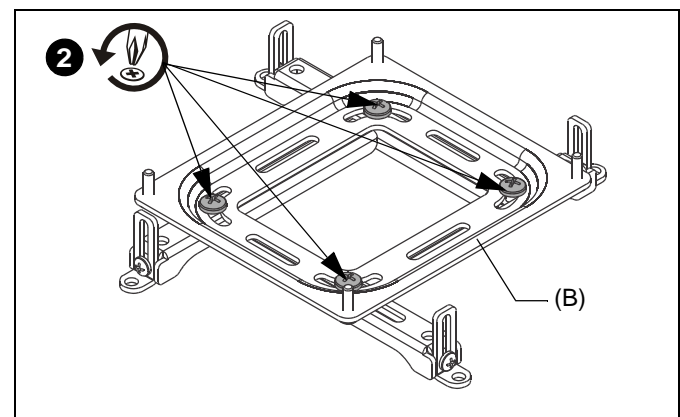

Figure 3
2. Loosen, but do NOT remove, the screws holding the legs to the interface bracket (B). (See Figure 3)